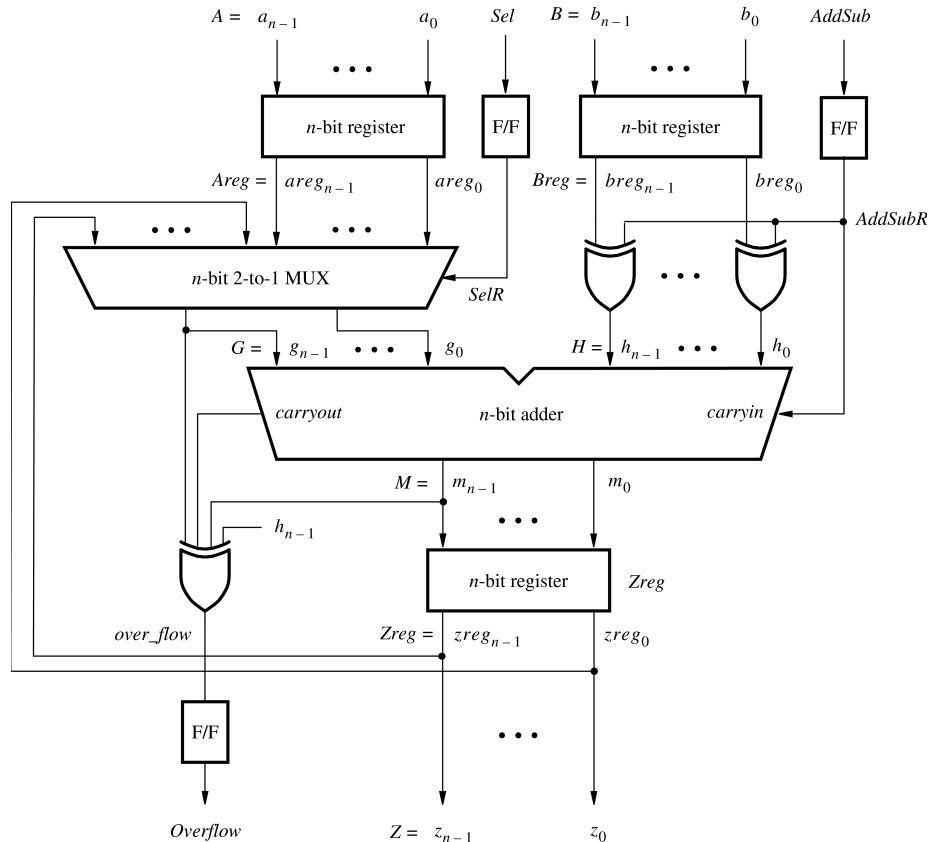
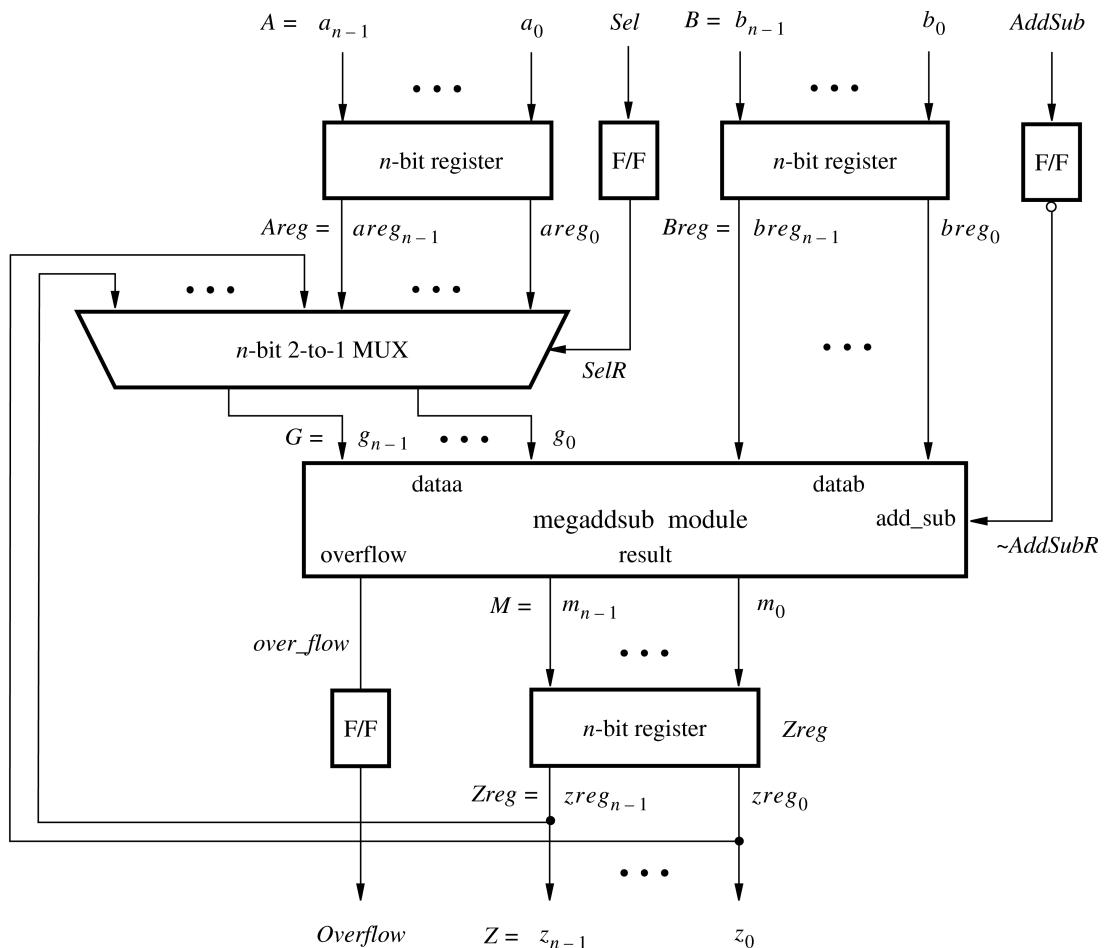
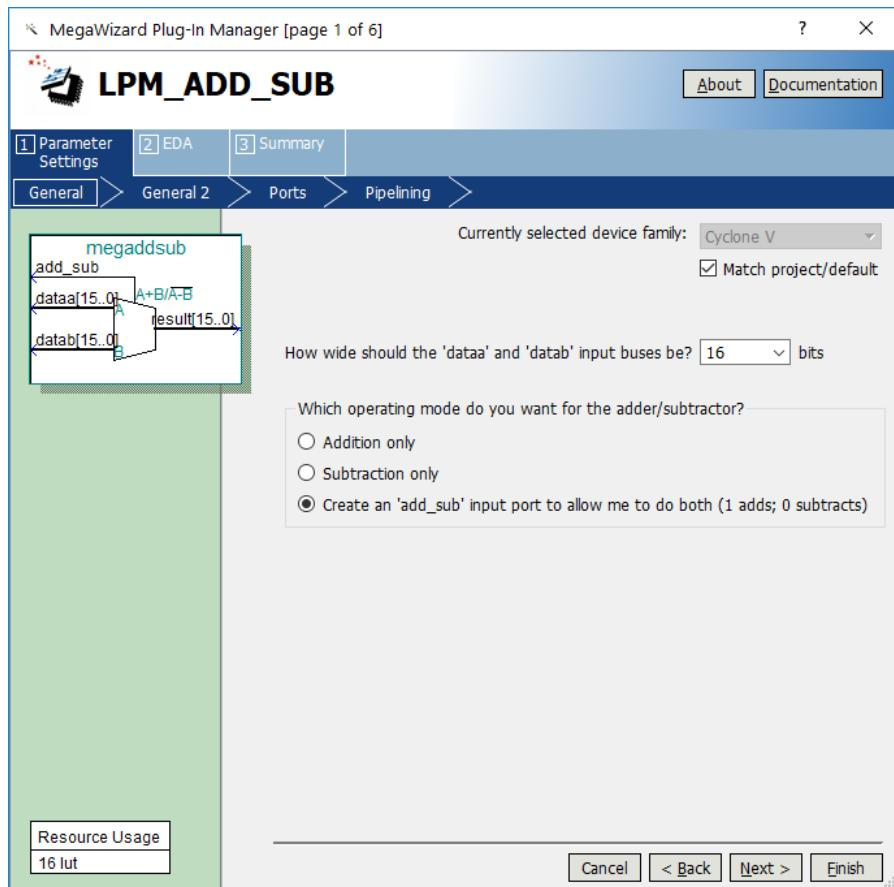

Figure 1. The adder/subtractor circuit.
Figure 3. The augmented adder/subtractor circuit.
Figure 6. Specify the size of data inputs.
As an example, we will use the adder/subtractor circuit shown in Figure 1. It can add, subtract, and accumulate n -bit numbers using the 2's complement number representation. The two primary inputs are numbers $A = a_{n-1}a_{n-2}\cdots a_0$ and $B = b_{n-1}b_{n-2}\cdots b_0$, and the primary output is $Z = z_{n-1}z_{n-2}\cdots z_0$. Another input is the *AddSub* control signal which causes $Z = A + B$ to be performed when *AddSub* = 0 and $Z = A - B$ when *AddSub* = 1. A second control input, *Sel*, is used to select the accumulator mode of operation. If *Sel* = 0, the operation $Z = A \pm B$ is performed, but if *Sel* = 1, then B is added to or subtracted from the current value of Z . If the addition or subtraction operations result in arithmetic overflow, an output signal, *Overflow*, is asserted.
The LPMs in the IP Catalog are general in structure and they can be configured to suit a specific application by specifying the values of various parameters. We will use the *lpm_add_sub* module to simplify our adder/subtractor circuit defined in Figures 1 and 2. The augmented circuit is given in Figure 3. The *lpm_add_sub* module, instantiated under the name *megaddsub*, replaces the adder circuit as well as the XOR gates that provide the input *H* to the adder. Since arithmetic overflow is one of the outputs that the LPM provides, it is not necessary to generate this output with a separate XOR gate.
4. In the box in Figure 6 specify that the width of the data inputs is 16 bits. Also, specify the operating mode in which one of the ports allows performing both addition and subtraction of the input operand, under the control of the *add_sub* input. A symbol for the resulting LPM is shown in the top left corner. Note that if *add_sub* = 1 then *result* = *A* + *B*; otherwise, *result* = *A* - *B*. This interpretation of the control input and the operation performed is different from our original design in Figures 1 and 2, which we have to account for in the modified design. Observe that we have included this change in the circuit in Figure 3. Click Next.
- The *adderk* instance of the adder circuit is replaced by *megaddsub*. Note that the *dataa* and *datab* inputs shown in Figure 6 are driven by the *G* and *Breg* vectors, respectively. Also, the inverted version of the *AddSubR* signal is specified to conform with the usage of this control signal in the LPM.